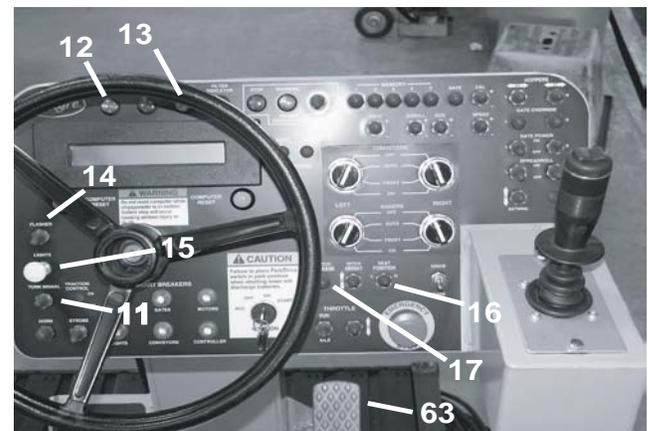

Figure 7. Control Panel
11, 12, 13. Turn Signal Selector and Indicators. (Figure 7)
14. Hazard Flasher Switch (Figure 7)
15. Headlight Switch. (Figure 7)
16. Seat Shift Switch. (Figure 7) (Optional)
17. Hitch Release Pushbutton. (Figure 7)
In the 2nd position from the top, power is supplied to the auto switch located at the outboard end of the left hopper (See fig. 7). When this switch is tripped by material against the diaphragm, the auger will shut off and conversely when it is untripped by a lack of material, it will start the auger attempting to fill the outer end of the hopper. In the upper position, the auger is turned "Off".
In the 2nd position from the top, power is supplied to the auto switch located at the outboard end of the right hopper (See fig. 7). When this switch is tripped by material against the diaphragm, the auger will shut off and conversely when it is untripped by a lack of material, it will start the auger attempting to fill the outer end of the hopper. In the upper position, the auger is turned "Off".